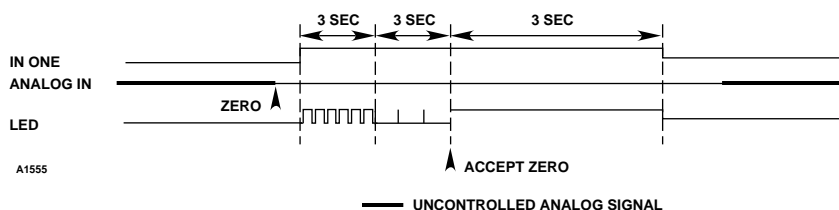

Figure 33—Calibration Algorithm "E"
2. Activate the reed switch or input 1 on the communication module. (See Figure 33.) The red LED blinks at a 2 Hz rate while the reed switch or input 1 is closed.